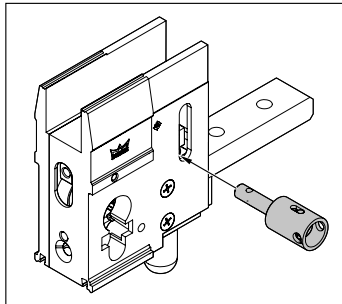

Abb. 13 Assemble sleeve
2. Insert the sleeve with the bolt into the base lock (Abb. 13).